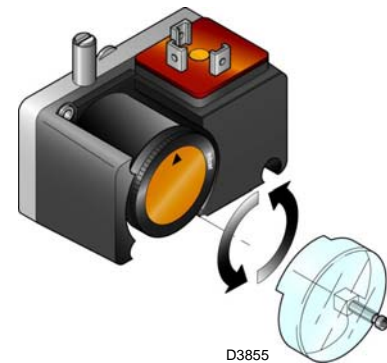

Fig. 36
- Adjust the minimum gas pressure switch (Fig. 36) to the start of the scale.
Adjust the minimum gas pressure switch after performing all the other burner adjustments with the pressure switch set to the start of the scale (Fig. 36).